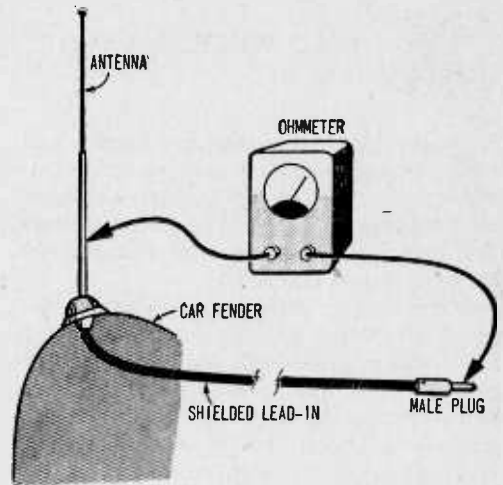

Fig. 5. Intermittent and noisy reception can be caused by antenna. An ohmmeter is the easiest way to check it for open or short circuit.
**Antenna Check.** Now check the auto antenna lead-in. See if there is a leakage between the shield and shielded wire. On the highest ohmmeter scale there should be no reading at all between shield and shielded wire. If water has seeped into the lead-in cable you may get a high resistance reading—see Fig. 5.